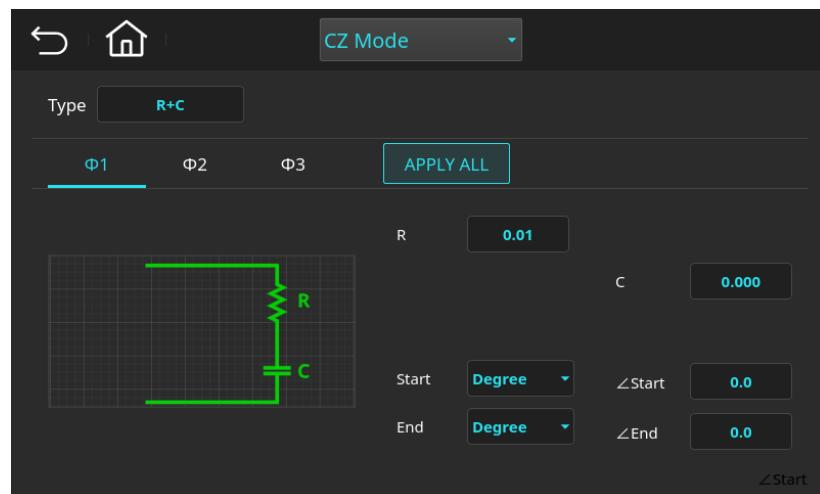

Figure 9-6 Load Impedance Simulation Operating Mode (CZ Mode) Page
**CZ Mode** to enter Load Impedance Simulation Mode (see Figure 9-6).